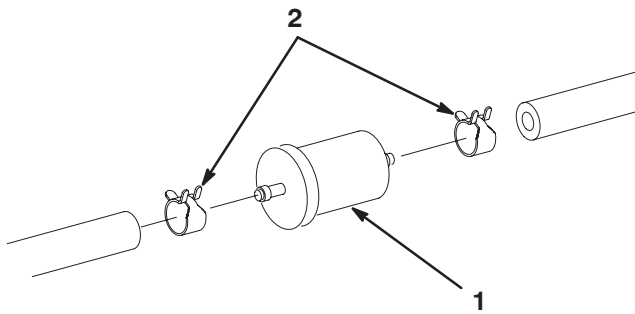

Figure 23
2. Clamp both fuel lines that connect to the fuel filter (Fig. 23) so that gasoline cannot drain when the lines are removed.